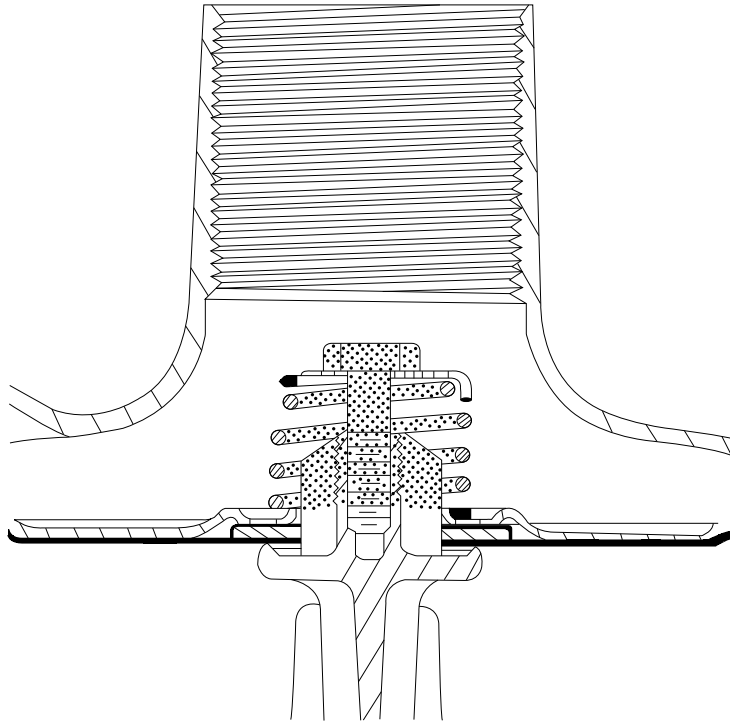

Figure 16. Signs of Corrosion in the Pusher Post and Internal Relief Valve Assembly (shaded area)
3. Look for visible corrosion or watermarks on the shaded area in Figure 16.